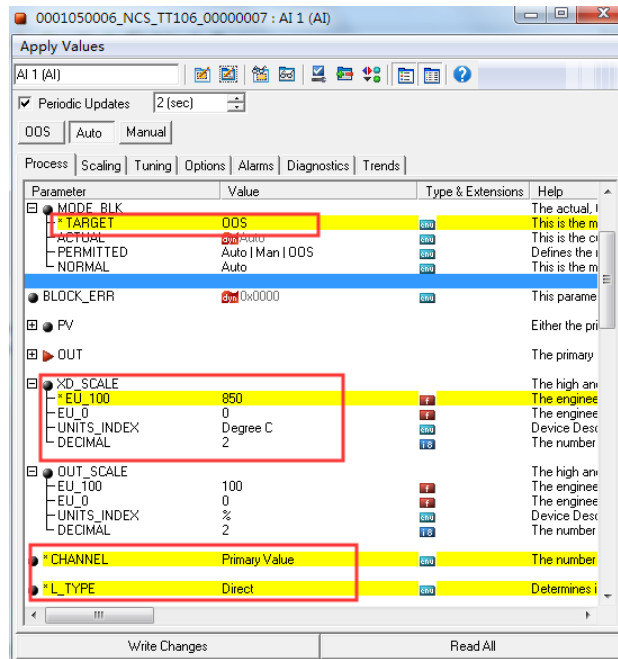

Figure 3.15 AI1 function block configuration interface
(3) After the configuration information is downloaded successfully, you need to configure the parameters in the AI function block. Common configuration parameters are CHANNEL, XD_SCALE, OUT_SCALE, and L_TYPE. Let's take the AI1 function block as an example for configuration, open the AI1 function block, modify the TARGET in the MODE_BLK parameter to OOS, modify the upper and lower limits and unit parameters of XD_SCALE, modify CHANNEL to Primary Value, modify L_TYPE to Direct, and click "Write Changes" The button finishes writing the modified parameters. As shown in Figure 3.15.